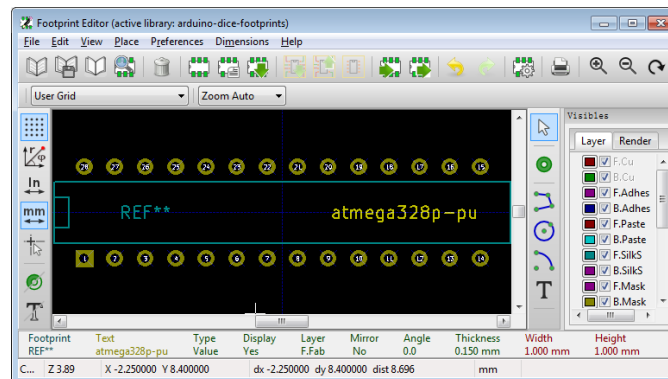

Figure 21: Completed footprint for the ATmega328P-PU microcontroller.
4. Mouse over the string "DIP-28_300" and change it to "atmega328p-pu" so that it's more recognizable when we do the layout later on. Fig. 21 shows completed